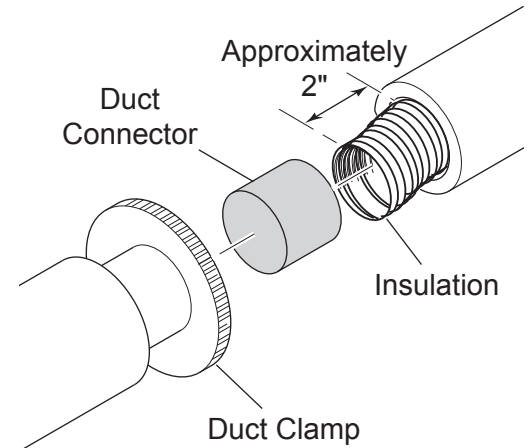

Figure 29 - Installing Duct Connector 403
7. If the duct is the insulated type, push the insulation back from one end of the duct approximately 2". **See Figure 29.**